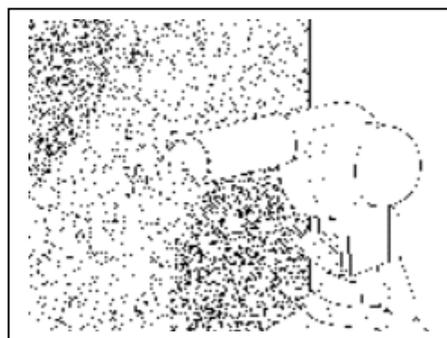

Figure 22. Heating Film Around Rivets
4. Heat the film with a heat source held approximately 8 centimeters away from the graphic and re-brush around the rivet. See Figure 22.